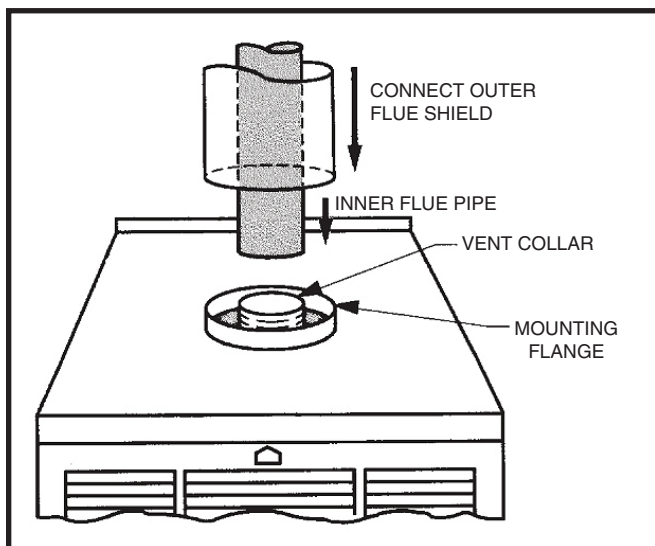

Figure 23. Combustion Air Pipe Connection
3. Connect inner flue pipe to vent collar of the furnace. See Figure 23 (page 12).
4. Connect combustion air pipe to furnace collar with sheet metal screw. See Figure 23.